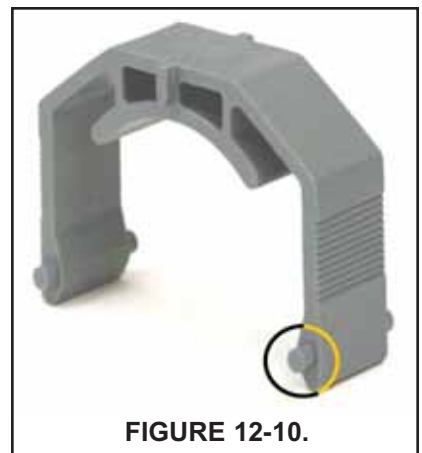

FIGURE 12-8.
6. Insert the new tubing one end at a time. Tongues on the sides of the gray fittings at the ends of the tube fit into receiving grooves in the pump casing. See Figure 12-8. Push the fitting into place until it clicks. Gently stretch the tubing over the rollers and insert the other fitting into the receiving socket on the other side of the pump.